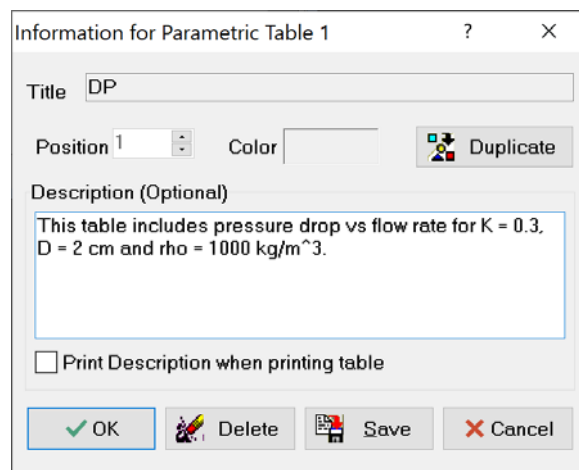
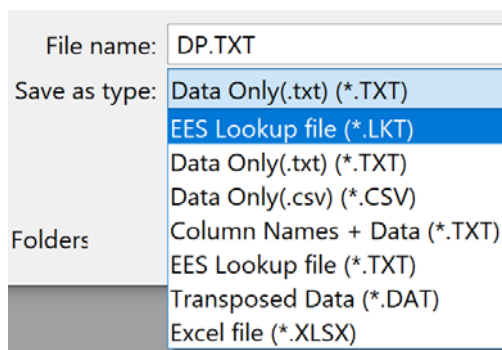
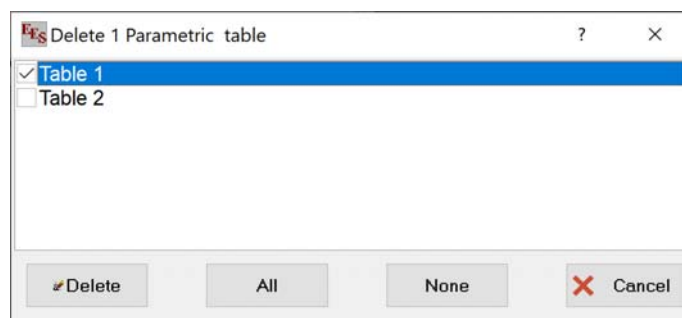

Figure 1-41: Information for Parametric Table dialog.
Figure 1-42: Formats available for saving Parametric Tables.
Figure 1-43: The Delete Parametric Tables dialog
The Parametric Table can be renamed and annotated. Right click on the tab corresponding to the table in order to bring up the Information for Parametric Table dialog, shown in Figure 1-41. Provide a descriptive name in the Title field (DP) and record the details of the calculation in the Description panel. The description can optionally be printed with the table.
The Parametric Table is automatically saved with the EES program and reloaded when the program is reopened. However, you can also save your Parametric Table independently by selecting Save in the Information for Parametric Table dialog (Figure 1-41). There are a number of different formats available for you to save your table, these are accessed by selecting the Save as type option as shown in Figure 1-42.
Parametric tables are saved with an EES file. They can also be saved independently as explained in the previous section. A Parametric table can be deleted in two ways. One way is to right-click on the table's tab to bring up the dialog window shown in Figure 1-41 and click the Delete button. A second way to delete one or more Parametric tables is the Delete Parametric Tables command in the Tables menu. Selecting this command will bring up the dialog window shown in Figure 1-43 which lists all Parametric tables. Check off the tables that are to be deleted and then click the Delete button. Note that deleting the Parametric table means that the data that it contains will not be saved with the EES file the next time the EES file is saved. However, the